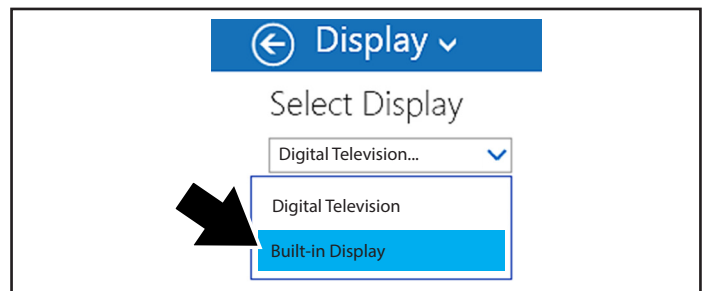

Figure 10
7. Select Built in Display from the Select Display menu (Figure 10).